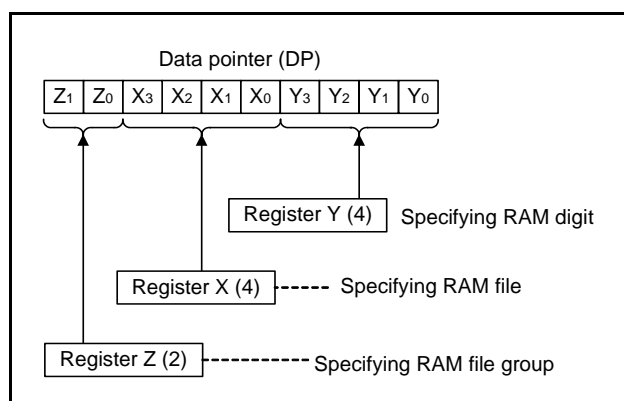

Fig 19. Data pointer (DP) structure
(9) Data pointer (DP)
Data pointer (DP) is used to specify a RAM address and consists of registers Z, X, and Y. Register Z specifies a RAM file group, register X specifies a file, and register Y specifies a RAM digit (Figure 19).